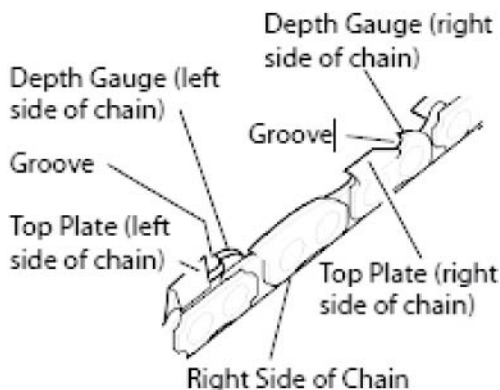

Fig.16
4. Hold file guide level. Make sure 30° mark on file guide is parallel to center of guide bar (See Fig.16). This will insure that you file cutters at 30° angle.
5. File from inside towards outside of cutter until sharp. Only file in this one direction (See Fig.16). (Note: Two or three strokes with file should sharpen cutter.)